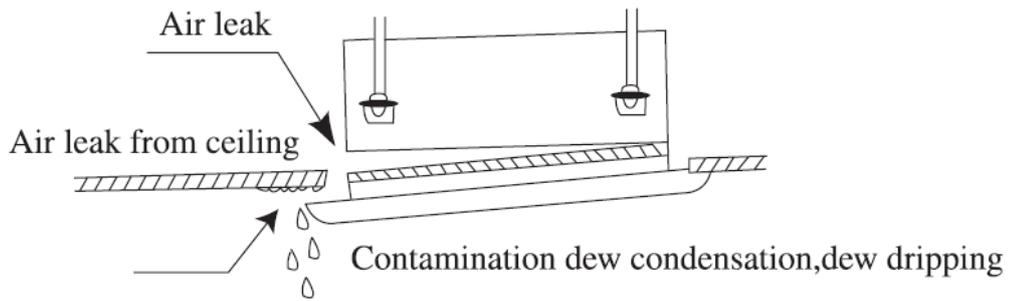

Fig.5
1.Improper screwing of the screws may cause the troubles shown in Fig.5